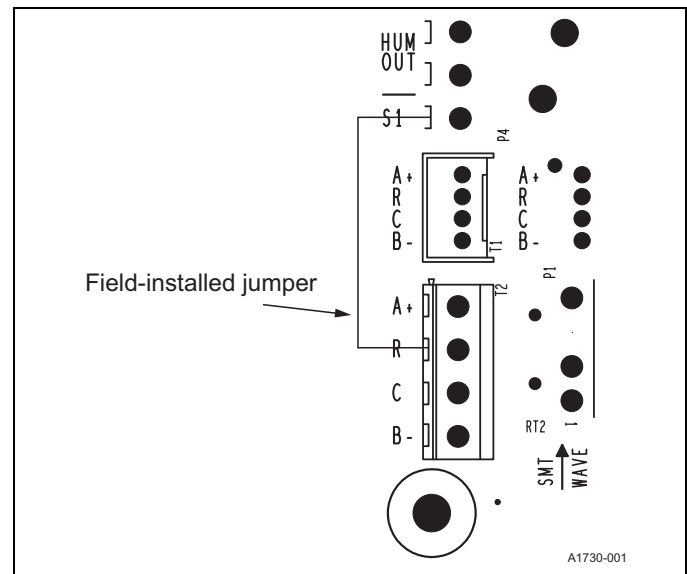

Figure 20: Variable speed board S1 jumper
2. Place a wire jumper from the R terminal on the communicating wiring connection to the S1 input as shown in **Figure 20**.